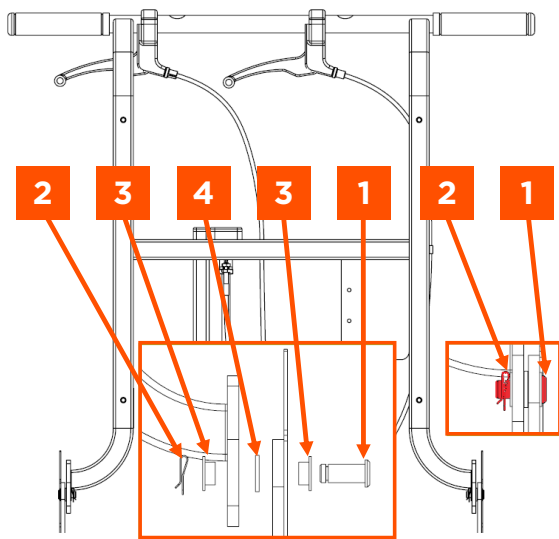
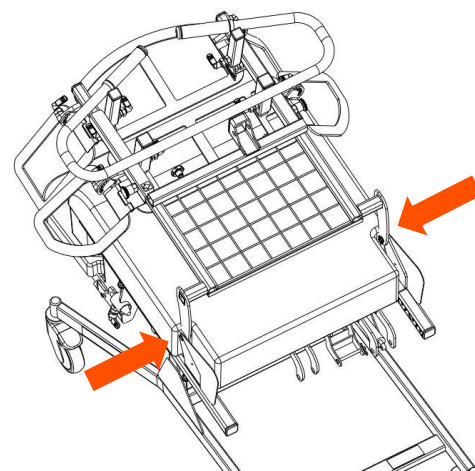

FIGURE 11
FIGURE 13
6. The backrest hinges each side of the chair are secured with a clevis pin (Fig 11, Item 1), two bushes (Fig 11, Item 3), washer (Fig 11, Item 4) and R clip (Fig 11, Item 2). The bushes should remain in the chair and backrest frame when the pins are removed. Note the order of assembly.
8. Place the postural backrest on the chair frame (Figure 13) and refit the clevis pins and R clips (Figure 11) to the hinges. Ensure bushes are in place and the R clip is on the inside of the chair.
2. Check the backrest hinge pins and clips are fitted correctly (Figure 11).